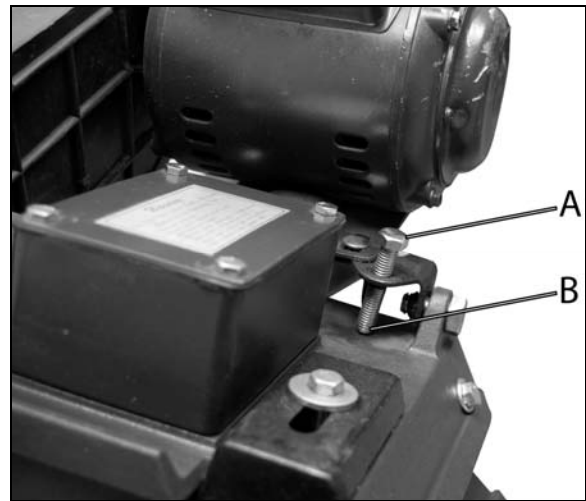

Figure 7
Proper belt tension is obtained when there is approximately $\frac{1}{4}$ " of deflection of the belt using a light finger pressure at the center span of the pulleys. To adjust the belt tension, loosen lock nut (A) (see Fig.7), and turn adjusting screw (B), clockwise to increase and counterclockwise to decrease tension. Tighten locknut (A) after the belt tension has been achieved.